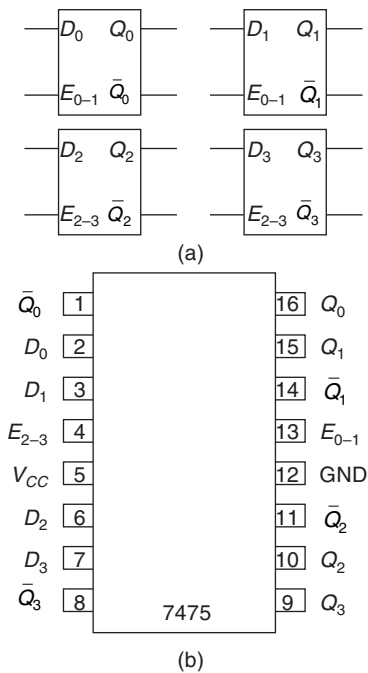

Fig. 12.18 Integrated Circuit 7475 Quad Bistable D Latch (a) Logic Symbol and (b) Pin Configuration.
The 7475, (Fig. 12.18) an integrated circuit D latch, contains four transparent D latches. Latches 0 and 1 share a common enable (E_{0-1}) and latches 2 and 3 share a common enable (E_{2-3}). From the function table we can see that Q output will follow D (transparent) as long as the enable line (E) is HIGH (called *active-HIGH enable*). When E goes LOW, the Q output will become latched to the value that D was just before the HIGH-to-LOW transition of E .